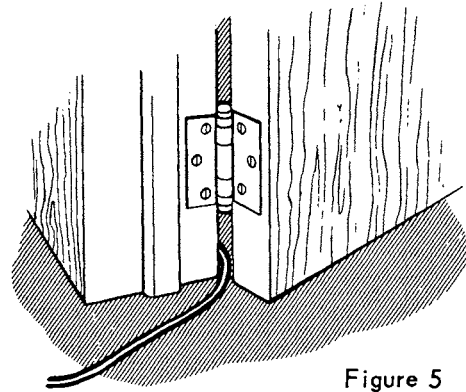

Figure 5
- 3. Extension cords run through doorways (Figure 5)